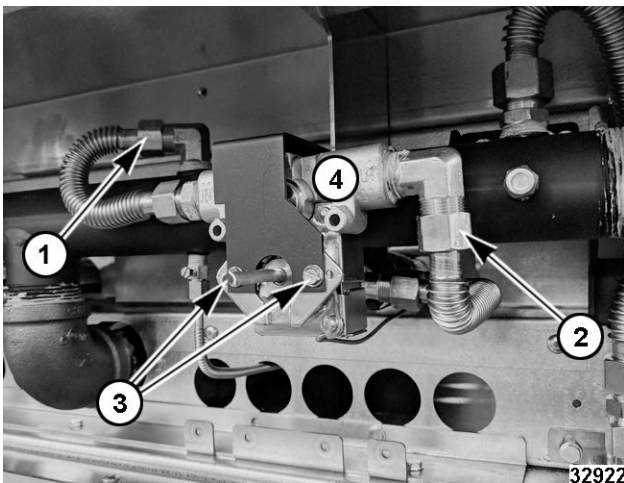

Fig. 110
6. Loosen inlet (1, Fig. 110) and outlet (2, Fig. 110) compression nuts.
7. Remove mounting screw (3, Fig. 110).
8. Remove thermostat body and capillary tube assembly (4, Fig. 110).